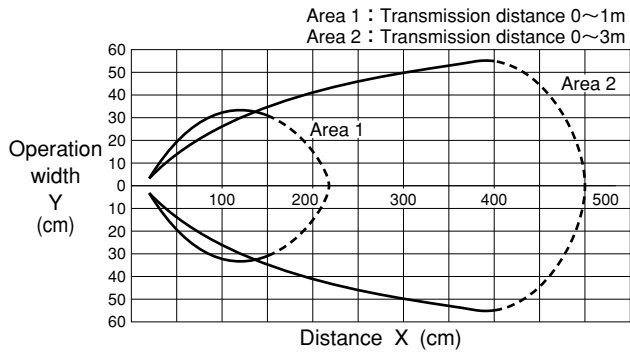

Fig. 2
- Refer to Fig. 2 for transmitting area.